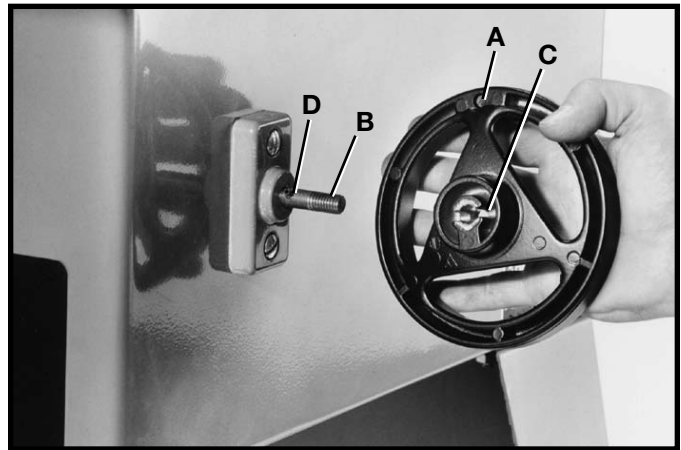

Fig. 13
1. Attach blade tilting handwheel (A) Fig. 13 to shaft (B). Make certain slot (C) in handwheel is engaged with roll pin (D) on the shaft.